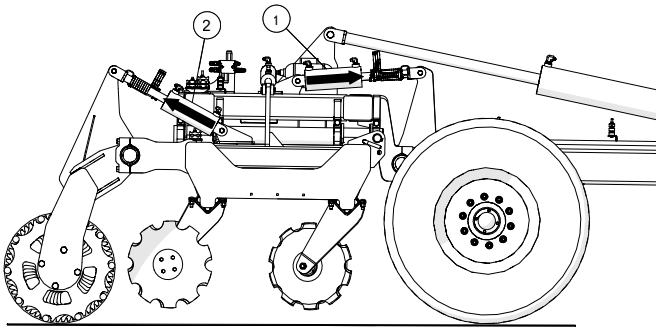

Figure 12. Raising Machine
2. Extend the wheel cylinders (**#1**) and the basket cylinders (**#2**) to lift machine off the ground. This places machine into lowest transport position. See **Figure 12**.